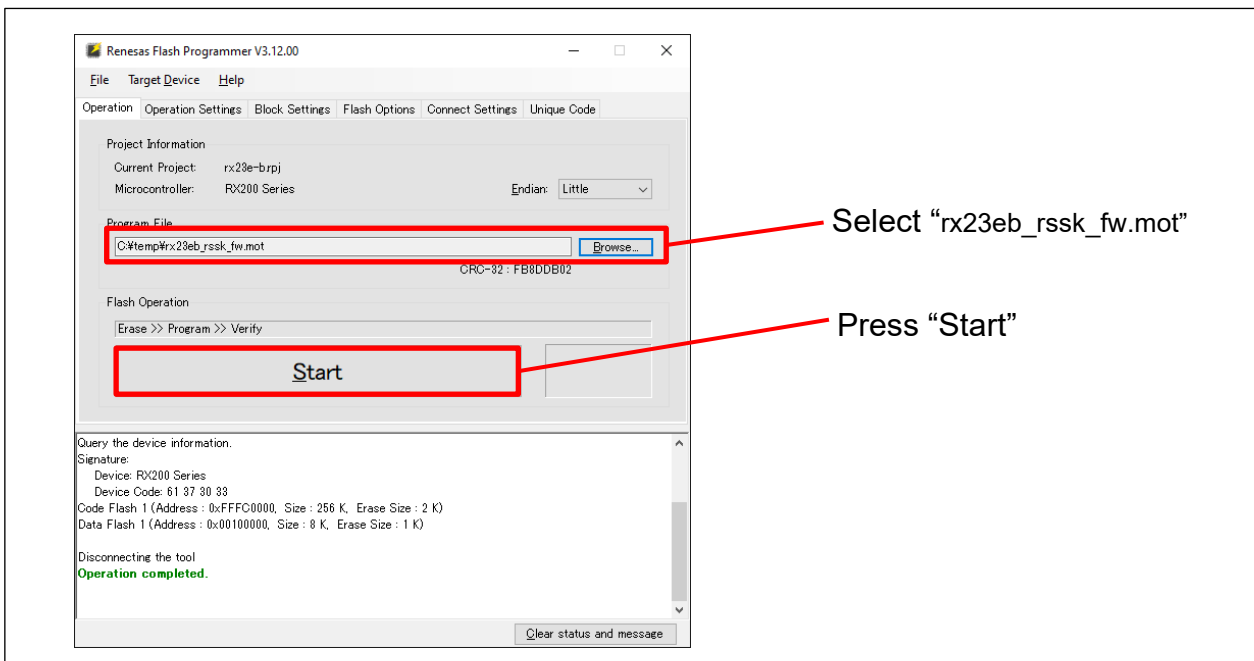

Figure 3-5 Renesas Flash Programmer Writing Operation
4. Select “rx23eb\_rssk\_fw.mot” referring to Figure 3-5, press the reset switch on the RSSKRX23E-B board, then press “Start”.